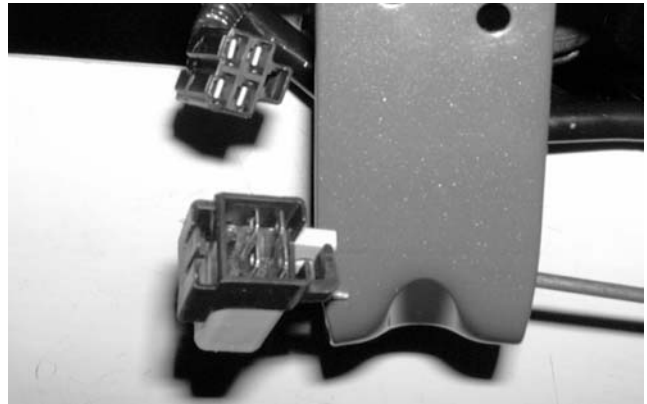

Figure 9-68
3. Remove the brake safety switch from the wiring harness connector. See Figure 9-68.